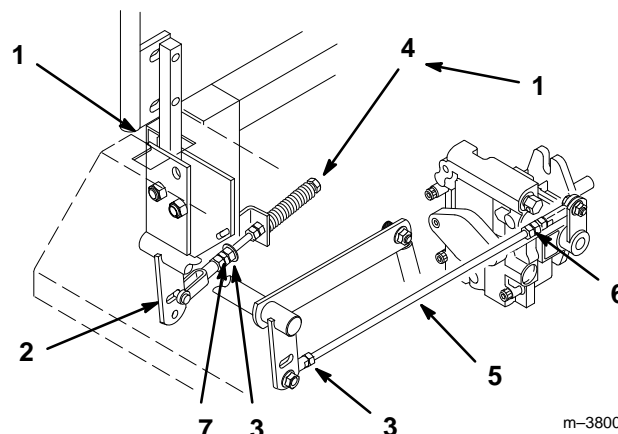

Figure 37
2. Begin with either the left or right motion control lever. Move lever to the neutral (but not locked) position and pull lever back until the clevis pin (on arm below pivot shaft) contacts the end of the slot (just beginning to put pressure on spring) (Fig. 37).
3. Check where lever is relative to notch in console (should be centered allowing lever to pivot outward to the neutral lock position) (Fig. 37).
12. Loosen locknut at ball joint on pump control rod (Fig. 37).
13. Adjust pump rod length by rotating double nuts on rod, in the appropriate direction, until wheel is still or slightly creeps in reverse (Fig. 37).